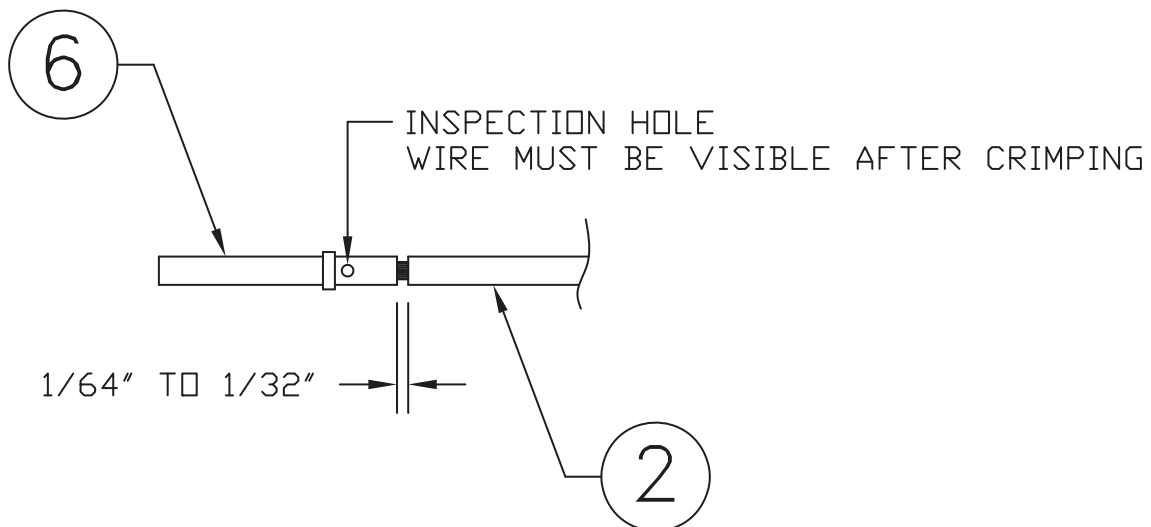

Figure 22-3 Insulation/Contact Clearance
- Strip back approximately 0.17 inches of insulation from each wire of the shielded cable (item 2, Figure 22-3) and crimp a contact (item 6, Figure 22-3) to each conductor. It is the responsibility of the installer to find the proper length of insulation to be removed. Wire must be visible in the inspection hole after crimping and the insulation must be 1/64 – 1/32 inches from the end of the contact as shown in Figure 22-3.
2. Strip back approximately 0.17 inches of insulation and crimp a contact (item 6, Figure 22-3) to the 4" length of 22 AWG insulated wire. It is the responsibility of the installer to find the proper length of insulation to be removed. Wire must be visible in the inspection hole after crimping and the insulation must be 1/64 – 1/32 inches from the end of the contact as shown in Figure 22-3.